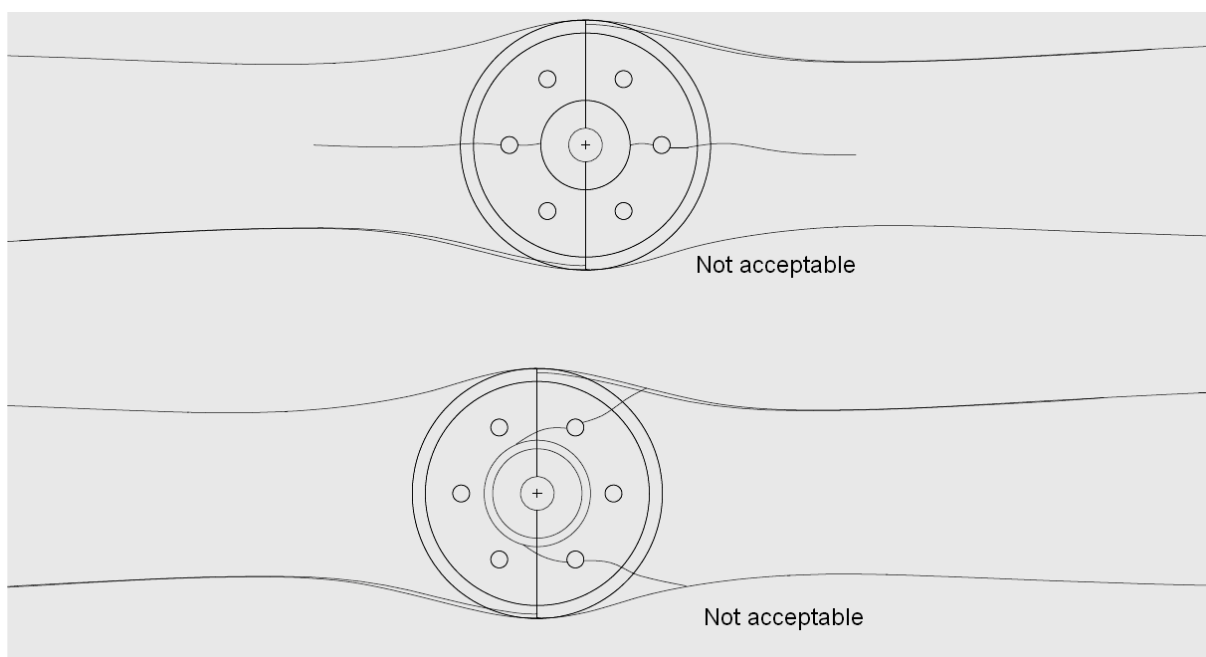

FIG 6-4 CRACKS ON THE HUB'S AREA
8. Longitudinal cracks in the hub area are to be considered dangerous; they need to be valuated by the Factory. (See fig 6-4).
On the propellers which mount the spinner, will be necessary to remove the spinner, in order to perform the check of the tightening torque of the bolts which fixing the propeller to the motor flange as required before, and in order to perform an accurate check of the hub's area for presence of longitudinal cracks (ref. Fig. 6-4) which are to be considered dangerous or however to be evaluated only by the manufacturer.
1. Gently remove the propeller from the hub like descried in cap. 5.2, and chek for any damage, especially on the two sides of the hub normally hidden by the frontal and fixing flanges. (See Fig 6-4).